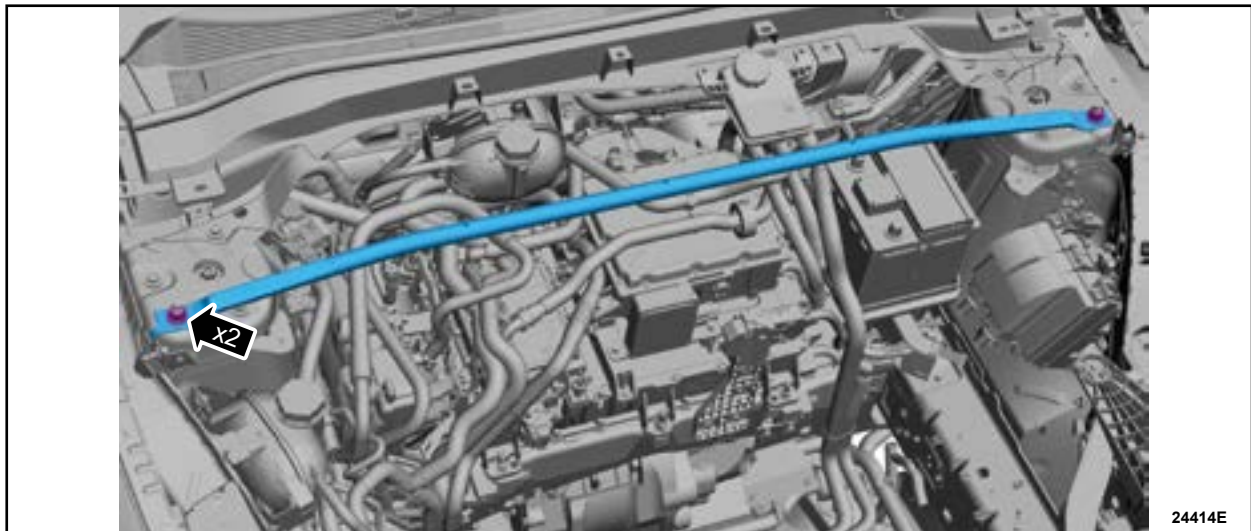

FIGURE 6
15. Remove the nuts and the front strut tower brace. See Figure 6.